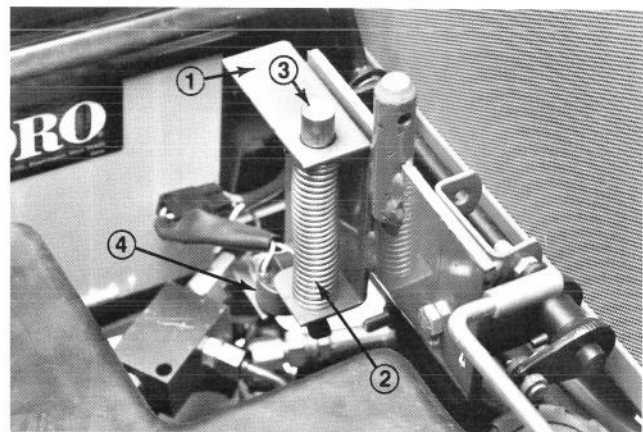

Figure 7
2. Insert pin part way into hole in top of seat support bracket on machine (Fig. 7).
6. Remove seat switch from shipping bracket and mount to seat support bracket using same fasteners (Fig. 7). Connect switch connector to main wire harness connector (Fig. 7).
1. Remove roll pin securing spring and pin to seat support bracket shipped with seat kit. Remove spring and pin. (Fig. 7)